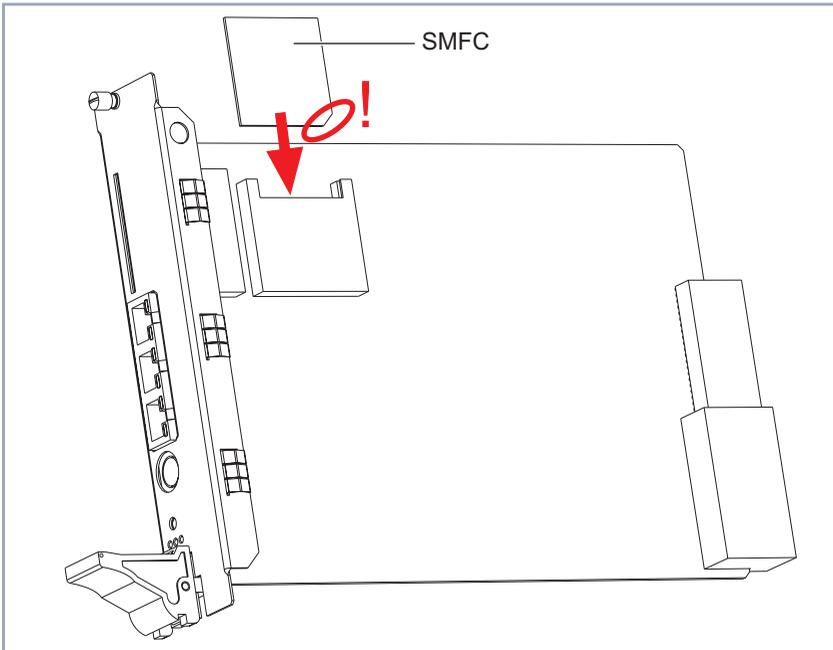

Figure 2-6: Installing the SMFC
- Insert the SMFC into the slot as shown in figure 2-6, page 46.